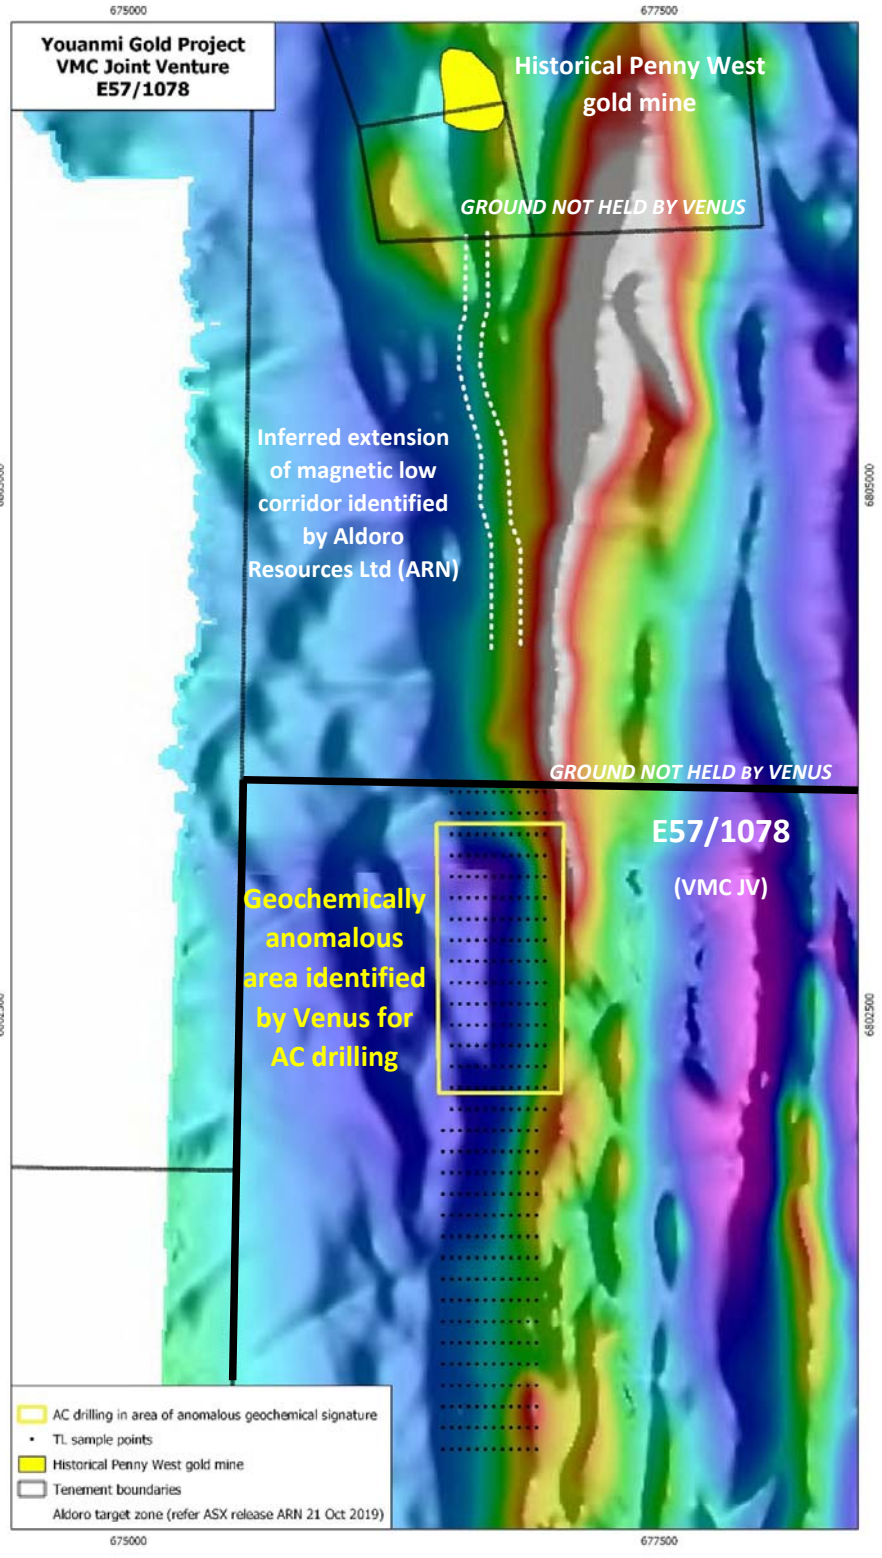

Figure 2. Location of Geochemically Anomalous Area for AC Drilling\_E57/1078
- **A 4,000m aircore drilling program will commence shortly to test this promising new gold target area (Figure 2).**
Approximately 1km north of the soil survey, historical high-grade gold drill intercepts of up to 2m @ 33.98 g/t have been reported by Aldoro Resources Ltd (ASX: ARN). ARN is currently exploring a magnetic low corridor (Figure 2) which is interpreted as the strike extension of the Penny West Shear (refer ASX releases ARN 21 Oct 2019 and 27 Nov 2019). Aldoro recently completed a drilling program along the Penny West Shear and noted that the southern portion of their target trend was emerging as an area of interest with a noticeable increase in the depth of weathering (refer ASX releases ARN 3 Feb 2020).
Historical exploration on E57/1078 mainly targeted the eastern greenstone units and only a few wide-spaced drill traverses also tested the interpreted prospective western sequence that hosts significant gold mineralization further north. Some of these historical holes show minor gold anomalies that in conjunction with the results of the recent soil geochemical survey were used to delineate a target area (Figure 2) for high-grade Penny West-style gold mineralization in this deeply weathered and largely depositional terrain.